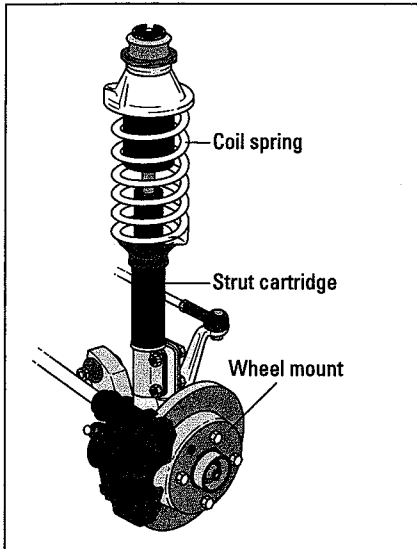

Figure 11-4:
- ✔ **MacPherson strut suspension:** There are two types of strut suspensions: *conventional* and *modified* (see Figures 11-4 and 11-5). Conventional struts have the coil spring wrapped around the strut cartridge, and modified strut suspensions have a remotely mounted spring. Strut suspensions use no upper control arm. The upper strut mount is what holds the wheel in place.